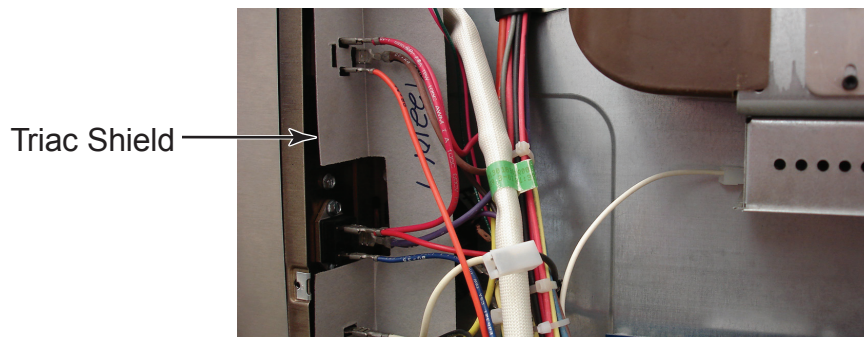

Figure 3
6. Slide triac shield toward back of oven to gain access to interlock switch mounting screws (Figure 3).